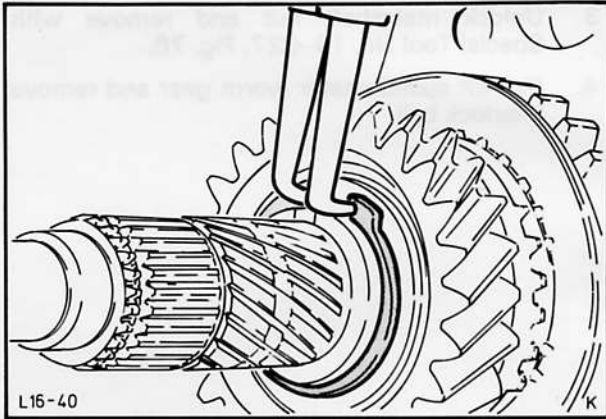

Fig. 79. Remove circlip of 1st/2nd gear synchroniser hub
18. Detach circlip of 1st/2nd gear synchroniser hub, Fig. 79.